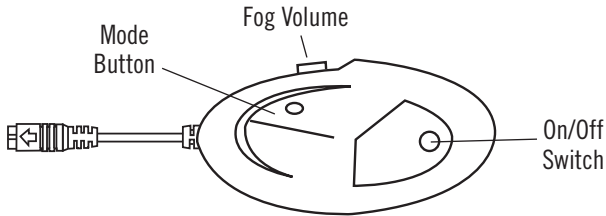

Figure 1
2.2 Remote Receiver (Refer to Fig. 1)